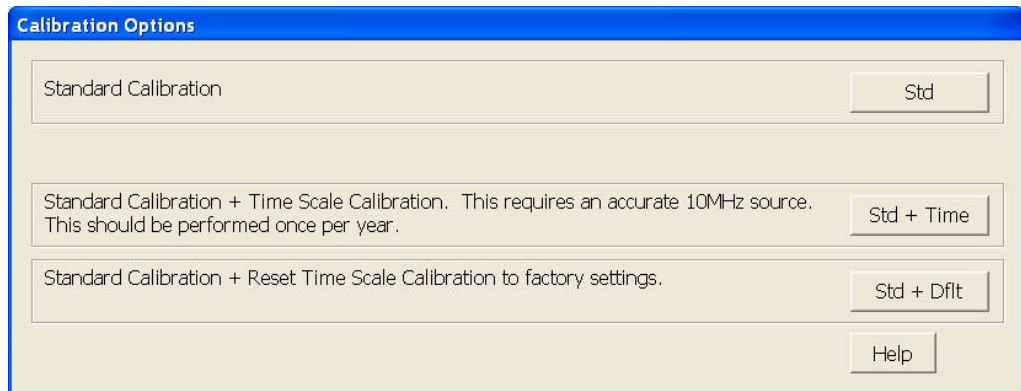

Figure 90 Time Scale Calibration Dialog box
- d During the calibration of channel 1, if you are prompted to perform a Time Scale Calibration, as shown in Figure 90 below.